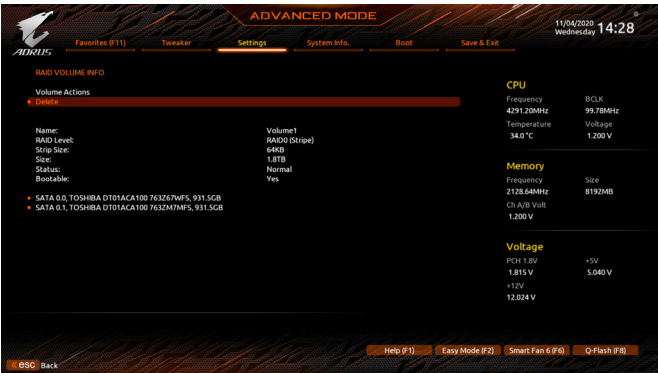

Figure 6
After completing, you'll be brought back to the Intel(R) Rapid Storage Technology screen. Under **RAID Volumes** you can see the new RAID volume. To see more detailed information, press <Enter> on the volume to check for information on RAID level, stripe block size, array name, and array capacity, etc. (Figure 6)